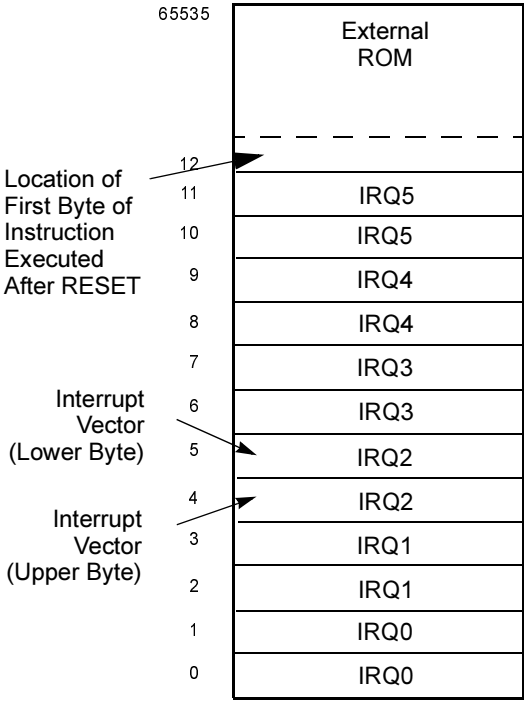

Figure 13. Program Memory Map
**Program Memory.** The Z86C91 can address up to 64 KB of external program memory. The first 12 bytes of program memory are reserved for the interrupt vectors. These locations contain six 16-bit vectors that correspond to the six available interrupts. Program execution begins at external location 000Ch after reset. See Figure 13.